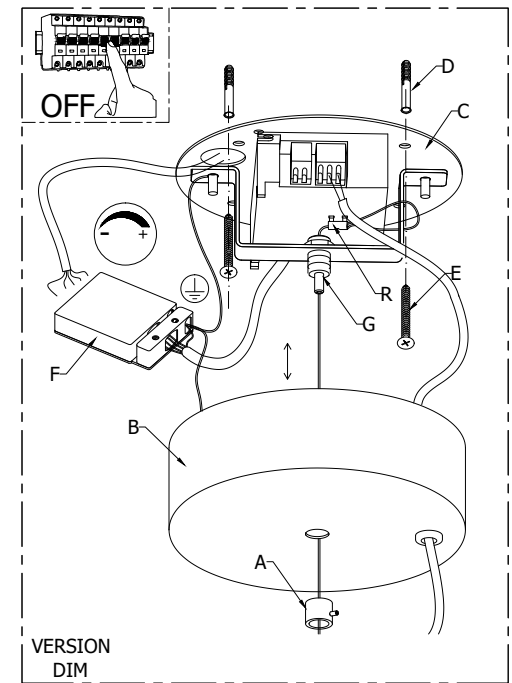

Fig. 2
DIMMABLE VERSION Connect the network cable into the terminal (F) according to the polarity.(Fig.2)